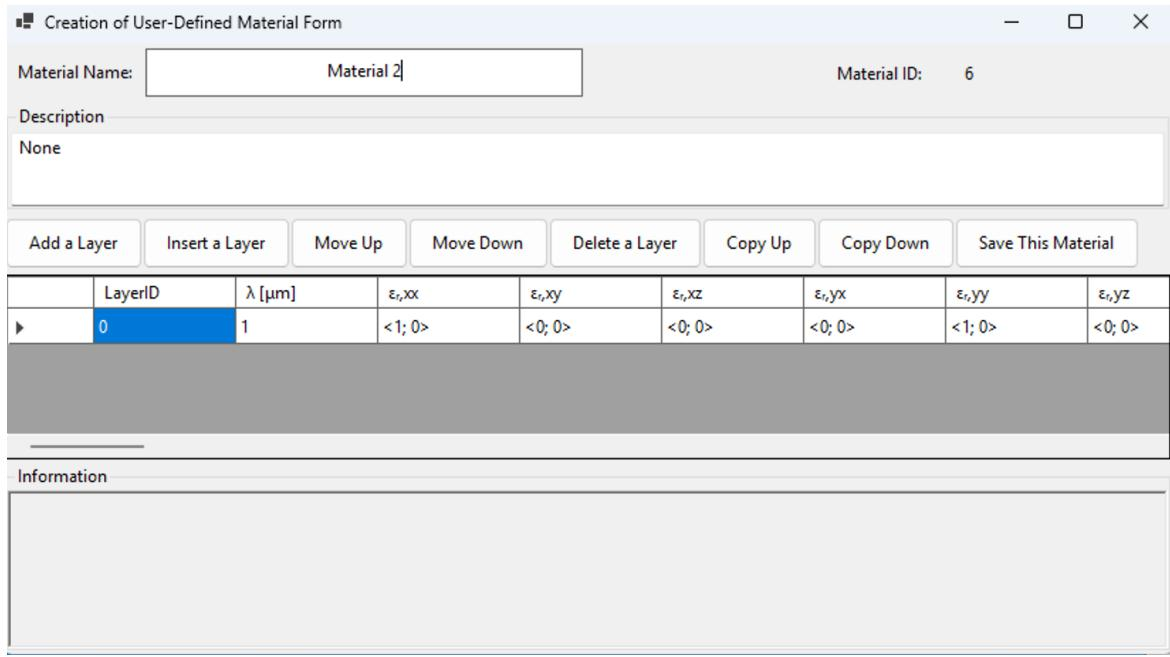

Figure 15. "Creation of User-Defined Material Form" window after renaming the material
2. Rename the material to “Material 2” in the text box, then the window will be changed as shown in Figure 15.